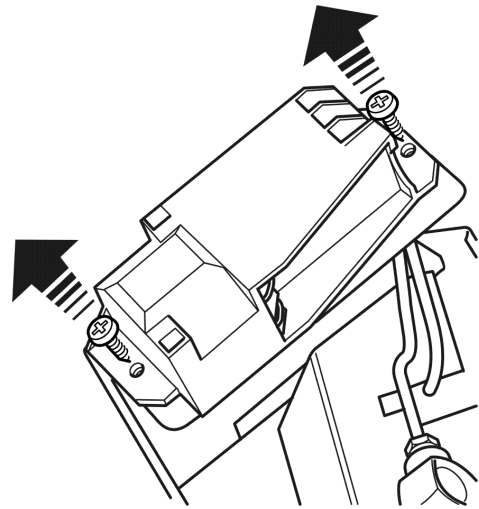

Figure 38. Removal of electronic spark generator
5. Unscrew the two fixing screws that attach the generator unit to the support bracket. The igniter generator can now be removed (See figure 38).